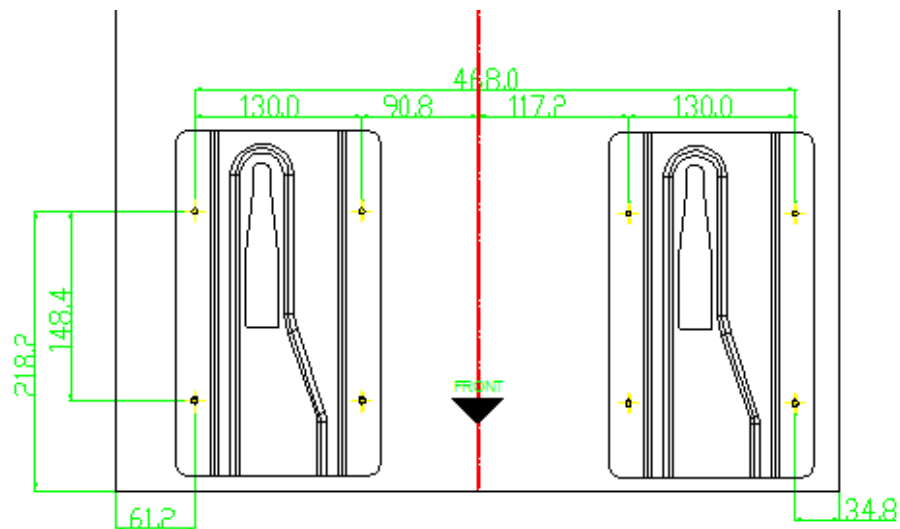

Fig.1
- a) Drill the frame screw hole first, as shown in Fig.1